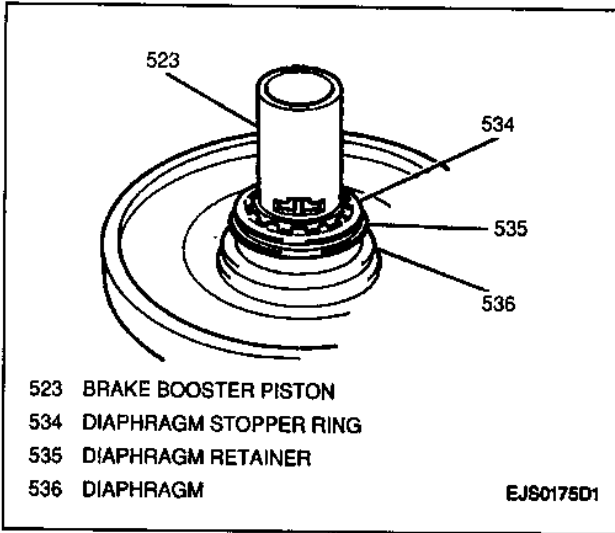

Figure 17—Proper Diaphragm Retainer and Stopper Ring Installation
6. Diaphragm stopper ring and retainer to brake booster piston (Figure 17).